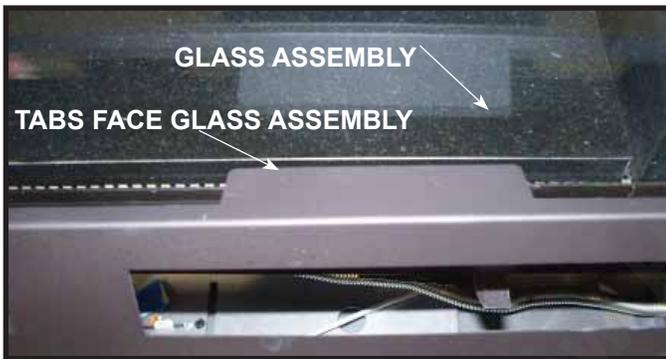

Figure 17. Positioning Access Panel.
11. Position access panel so tabs are facing the glass assembly. Insert into glass frame. See Figure 17 and Figure 18.